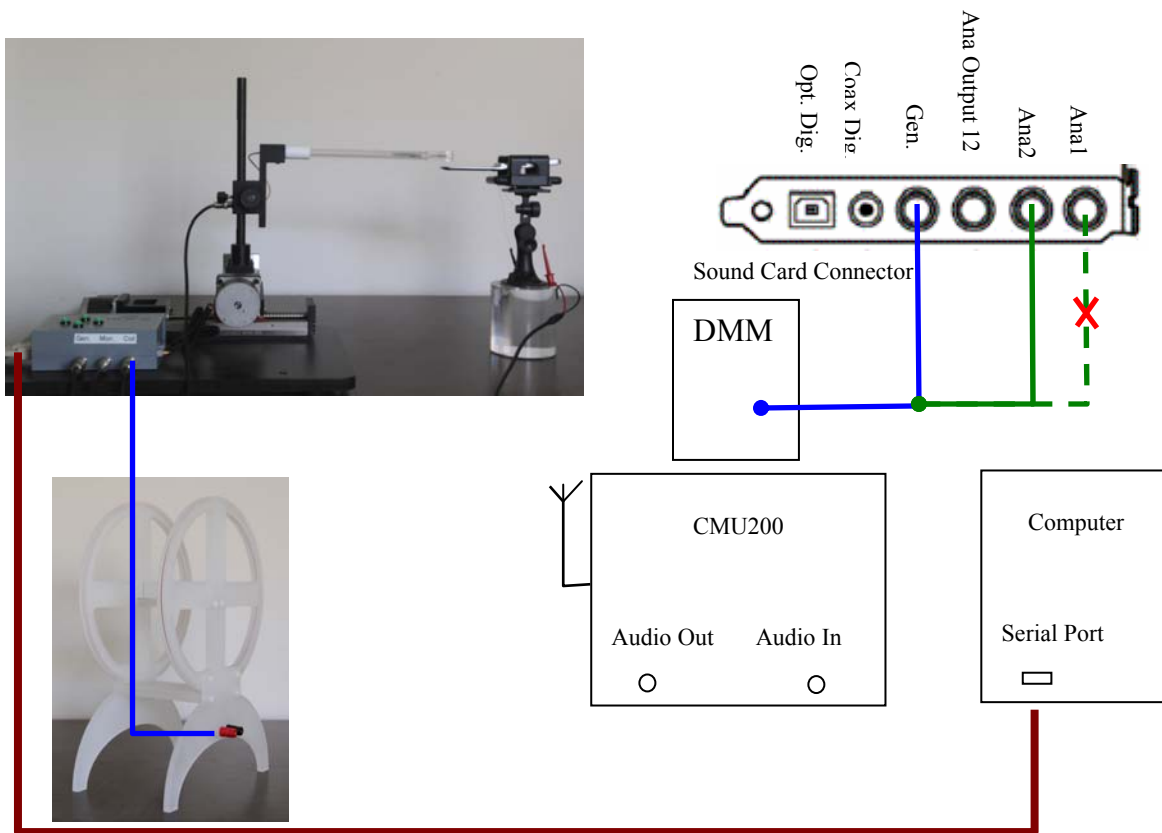

Fig. 2-14 Cal Ana2.
- Connect Ana2 to Gen. as shown in Fig. 2-14.
Use the same Cable setup as Fig. 2-14. Select “Cal Test Signals”. DO NOT use Ana1 Channel.